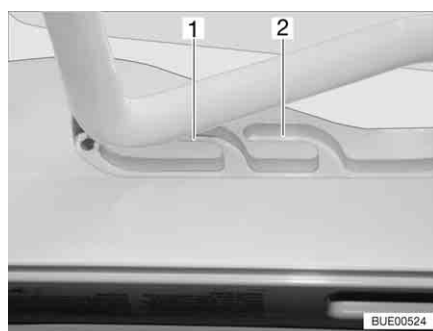
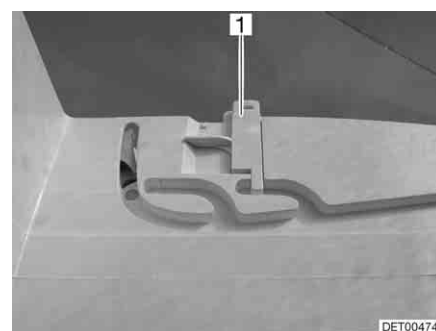

Fig. 98 Heki skylight in ventilation position
Fig. 99 Ventilation position locking mechanism
The Heki skylight can be put in two ventilation positions: Bad weather position (Fig. 98,1) and central position (Fig. 98,2). Depending on the model, the skylight can be locked in the central position with both left and right latches (Fig. 99,1) on the skylight frame.
- Push the bar slightly upwards and into the selected guide (Fig. 98,1 or 2) and lock if necessary.